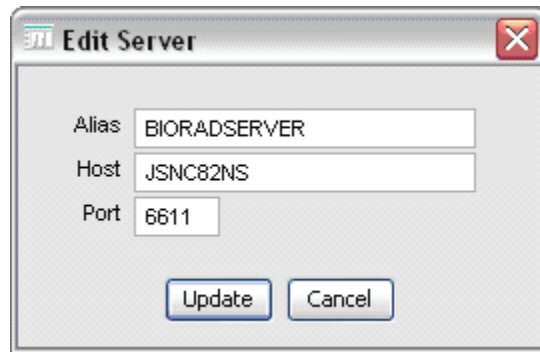

Fig. 40: The **Edit Server** dialog box.
3. Highlight the alias for the current server (not the localhost) and click the **Edit** button. The **Edit Server** dialog box will open (Fig. 40).